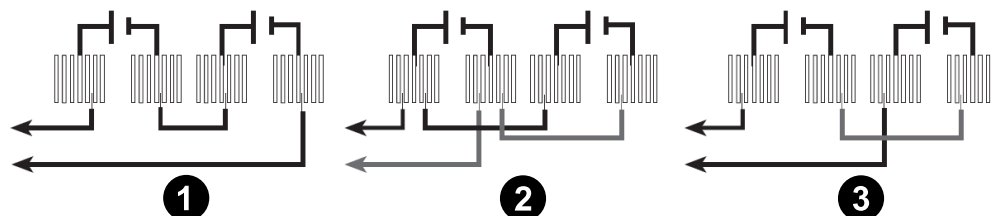

Figure 2.1
10. Now connect the second D-cell into the circuit, as shown by diagram ① in Figure 2.1. What is the effect on the brightness of the light?
11. Reconnect the second D-cell as seen in diagram ② in Figure 2.1. What is the effect on the brightness?
12. Finally, reconnect the second D-cell as seen in diagram ③ in Figure 2.1. What is the effect on the brightness?